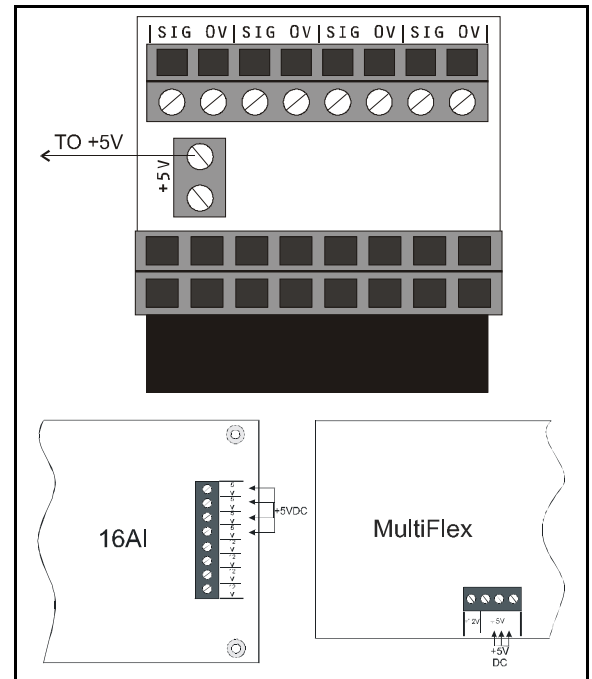

Figure 3 - Power Wiring
3. Connect one of the two +5VDC terminals on the adapter to a +5V power output on the MultiFlex (located at the bottom of the MultiFlex board) or 16AI (located on the right-hand side of the board). The two terminals are tied together, so you will only need to connect one terminal to the +5V power source. You may use the second terminal to “daisychain” multiple adapters to the same +5V power source (see **Figure 3**). **DO NOT GROUND EITHER OF THE +5V TERMINALS.**